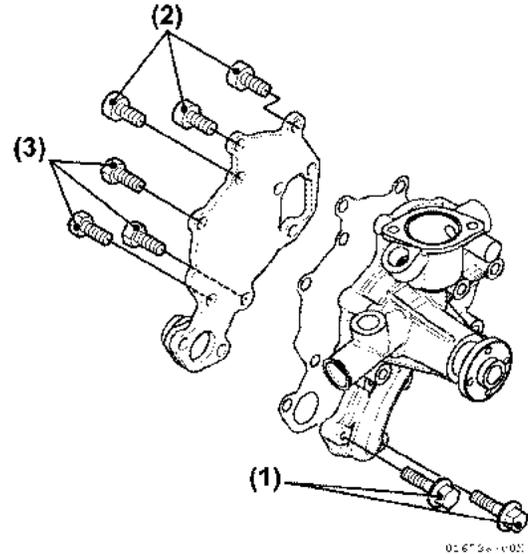

Figure 7-30
9. When installing coolant pump assembly to cylinder block, tighten two bolts (M6x20) at cylinder block inlet to specified torque (Figure 7-30, (1)).
Note: When replacing coolant pump and pump cover, tighten M6 bolts to specified torque (Figure 7-30, (2), (3)).